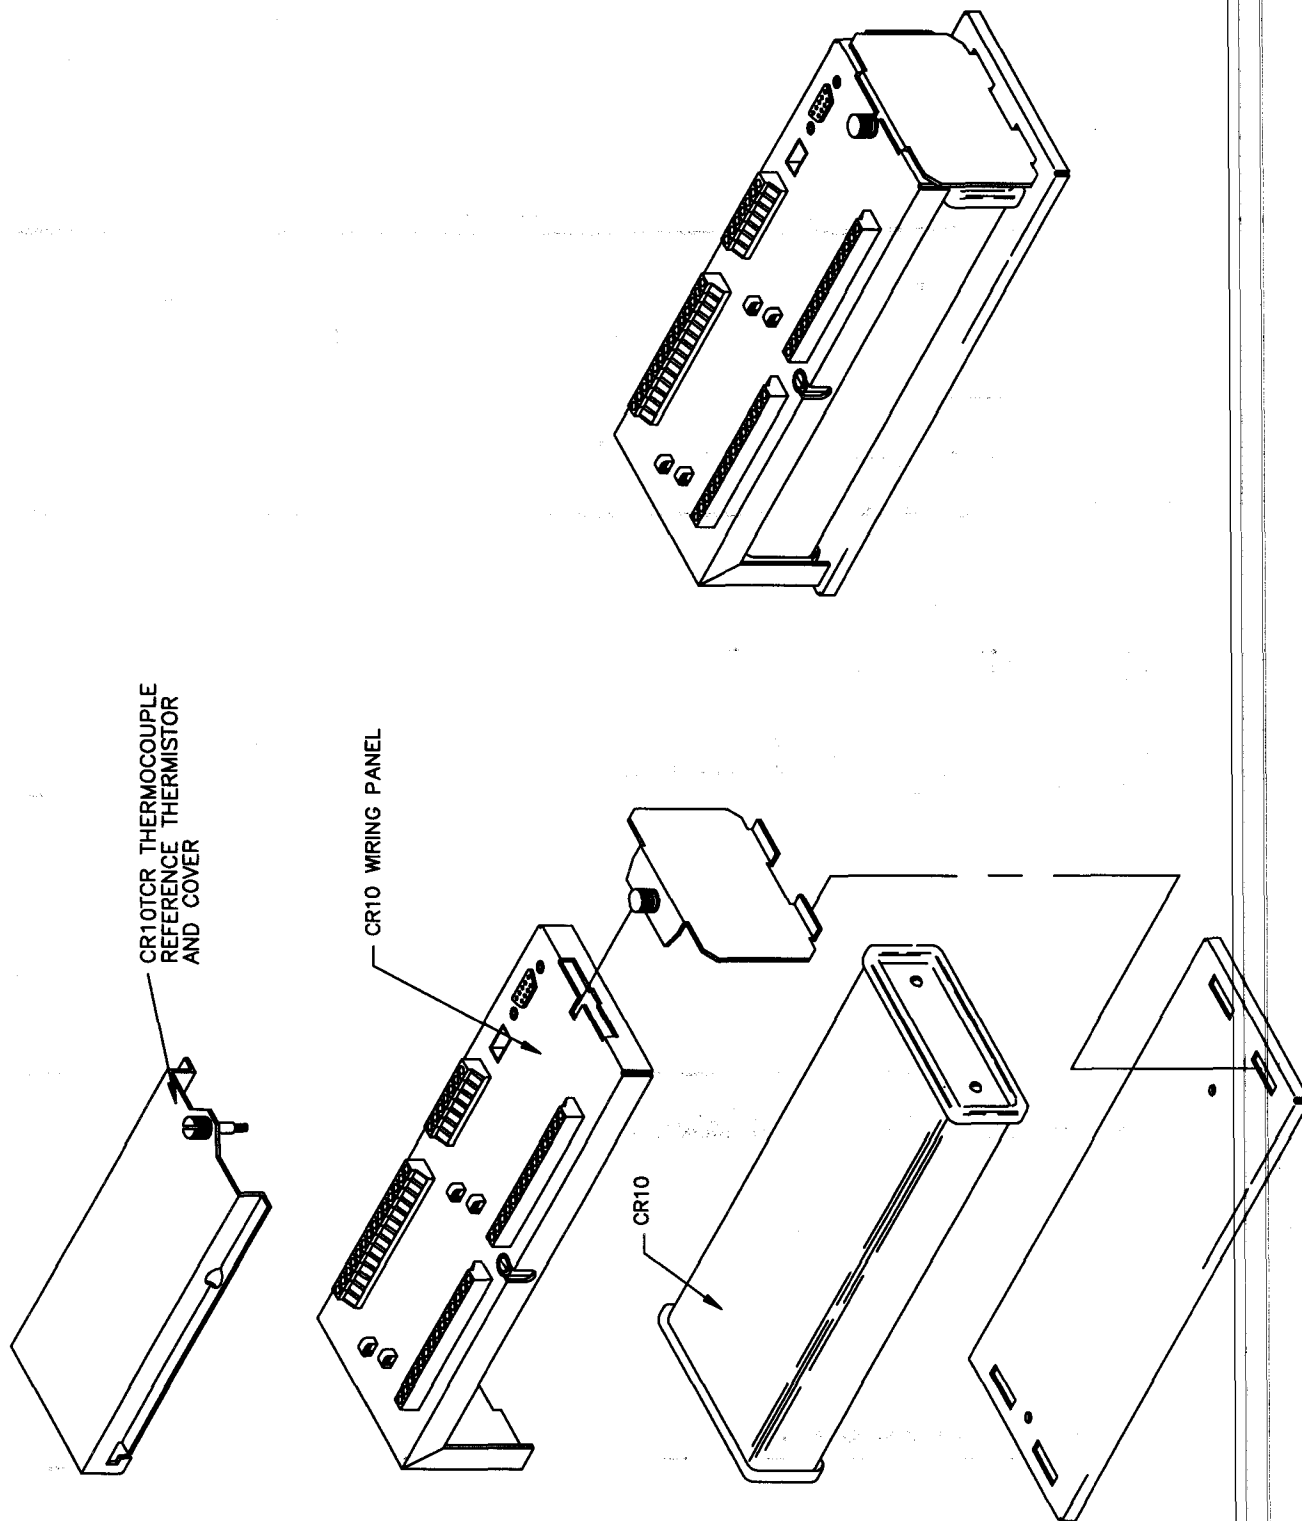

FIGURE OV1.1-1. CR10 and Wiring Panel
- The CR10 does not have an integral terminal strip. A removable wiring panel (Figure OV1.1-1) performs this function and attaches to the two D-type connectors located at the end of the module.